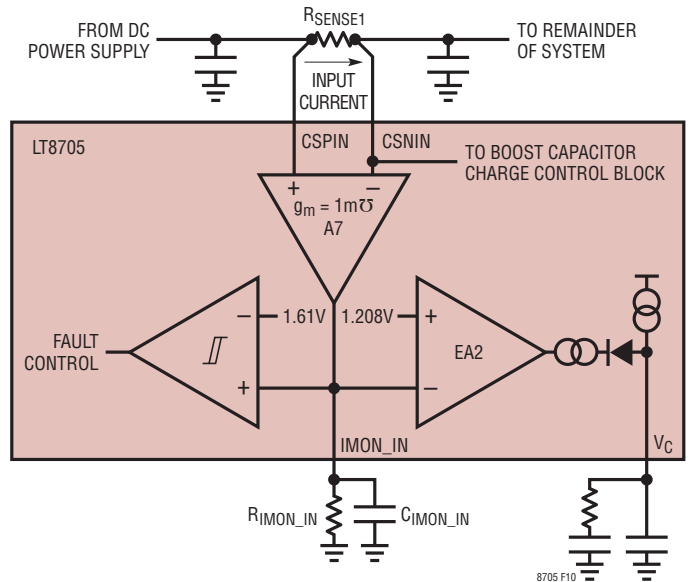

Figure 10. Input Current Monitor and Limit
The LT8705 has independent input and output current monitor circuits that can be used to monitor and/or limit the respective currents. The current monitor circuits work as shown in Figures 10 and 11.
**Current Limiting:** As shown in Figure 10, IMON\_IN voltages exceeding 1.208V (typical) cause the VC voltage to reduce, thus limiting the inductor and input currents. RIMON\_IN can be selected for a desired input current limit using: